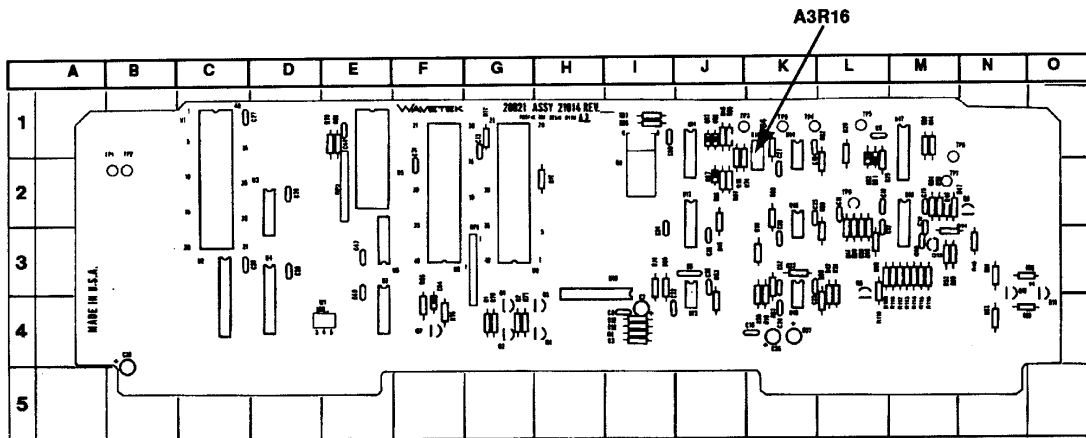

Figure 1. A3R16 - adjustment location.
- (1) Press **CLEAR** key.
- (2) Connect power meter to **CALIBRATOR 1 GHz** output.
- (3) Press number **7** key.
- (4) Press any number key. If power meter indication is negative (e.g., -0.2 dBm), adjust A3R16 (fig. 1) cw to approximately twice the error or, if power meter indication is positive (e.g., +0.2 dBm), adjust A3R16 (fig. 1) ccw to approximately twice the error (R).
- (5) Press any number key. If power meter does indicate 0.00 dBm, repeat (3) and (4) above.
- (6) Disconnect TI from power meter.
- (7) Press **CLEAR** key.
- (8) Connect RF detector **A** to **CALIBRATOR 1 GHZ** output.
- (9) Press any **UNITS** key (**nS** or **μS** or **mS** key). Wait for TI to calibrate itself before proceeding to (10) below.
- (10) Disconnect RF detector A from **CALIBRATOR 1 GHZ** output.
- (11) Connect RF detector B to **CALIBRATOR 1 GHZ** output.
- (12) Press any **UNITS** key (**nS** or **μS** or **mS** key.) Wait for TI to calibrate itself before proceeding to (13) below.
- (13) Disconnect RF detector B from **CALIBRATOR 1 GHZ** output.